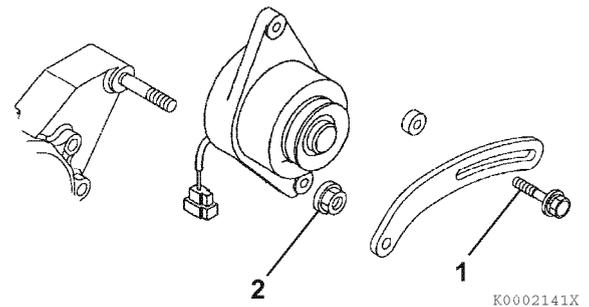

Figure 12-25
3. Remove the V-belt adjuster from the dynamo bolt (1, **Figure 12-25**).
4. Remove the nut (2, **Figure 12-25**) from the gear case stud. Remove the dynamo.